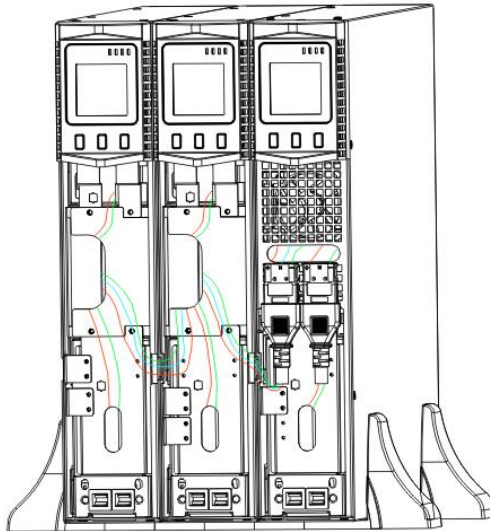

Figure15 The installation for UPS and battery box
2. The installation between UPS and EBPS can be referred to Fig.15
1. Install the base, then place the RT UPS on the base one by one as Fig.15 shows.